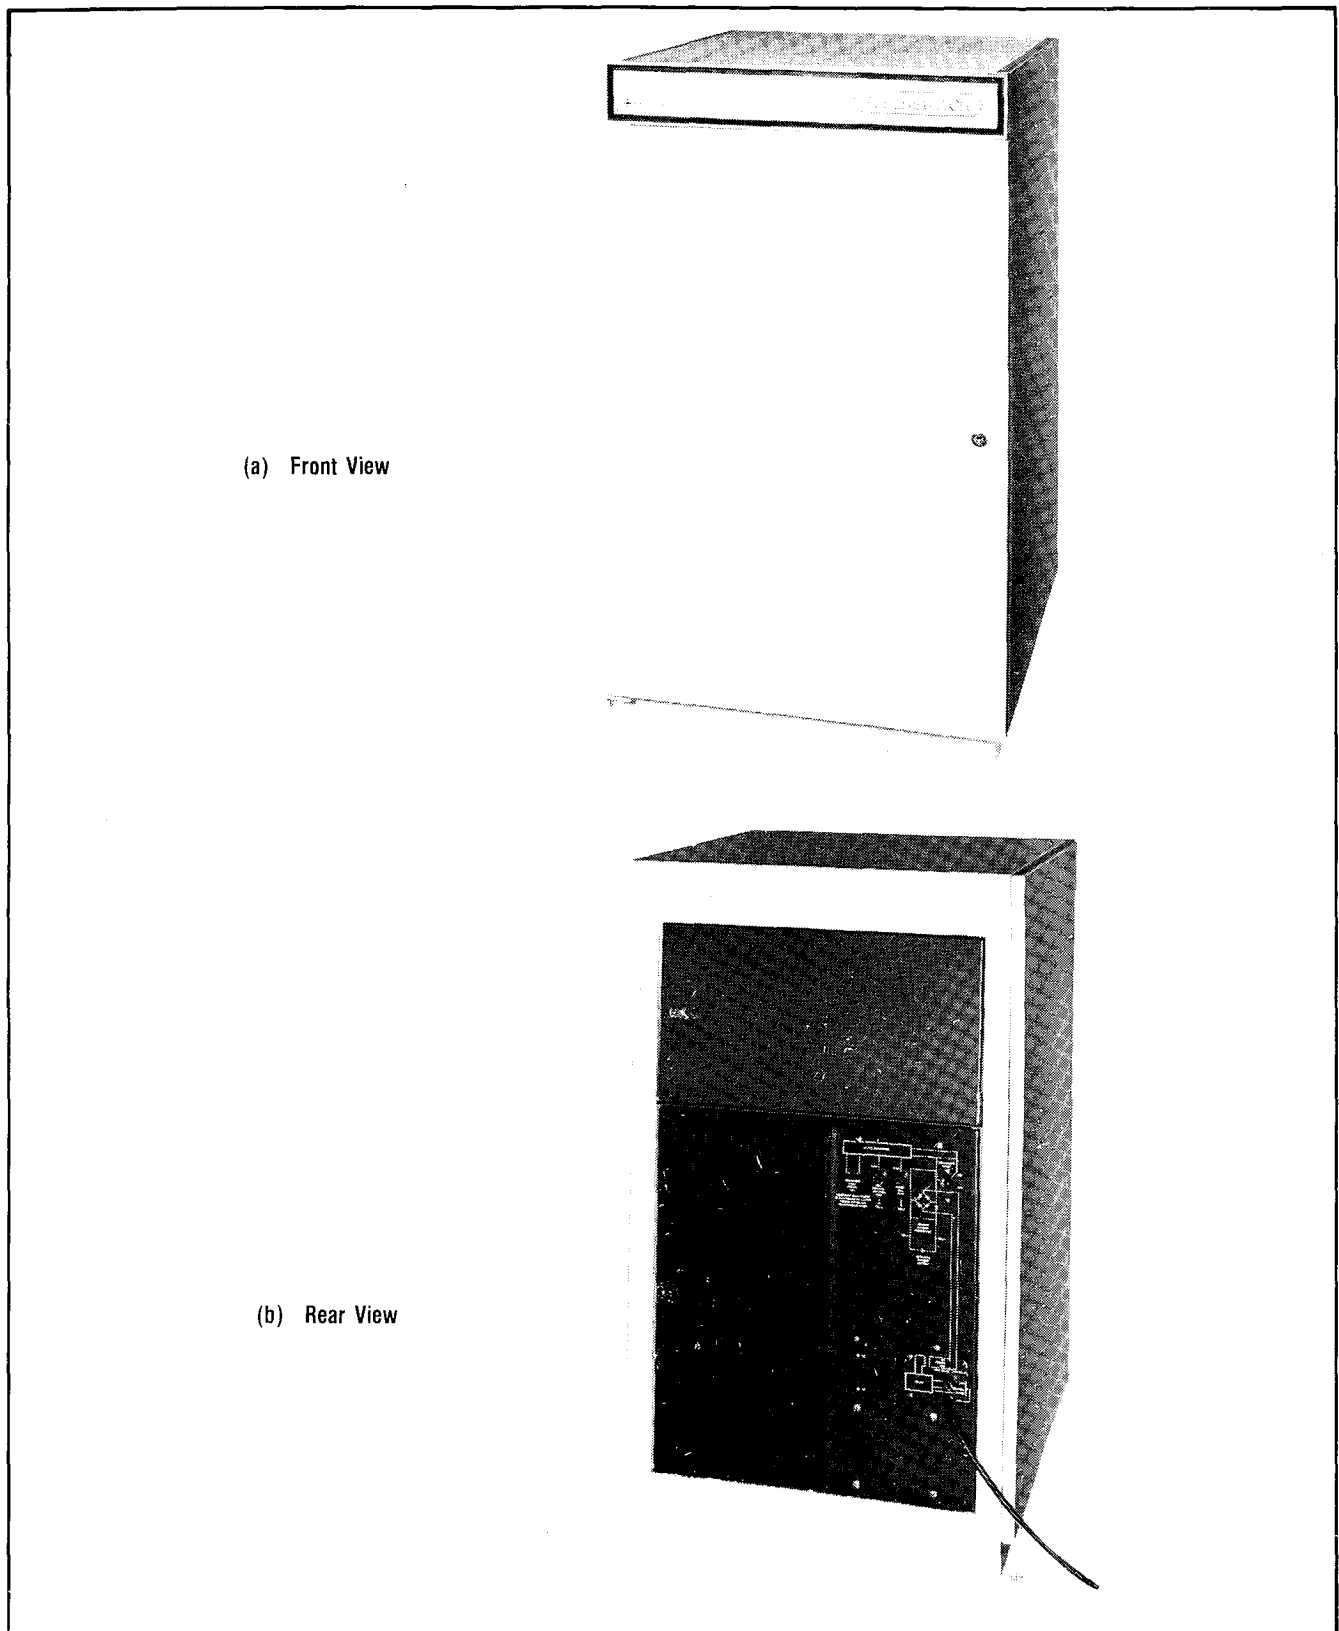

Fig. 2-2 Equipment Cabinet
2.06 The SX-200 equipment cabinet (See Fig. 2-2) is of metal construction and has the following dimensions: Height 38in. (960mm), width 23.5in. (600mm), and depth 27.5in. (700mm). The weight of a fully equipped PABX is approximately 290lbs. (131.7kg).